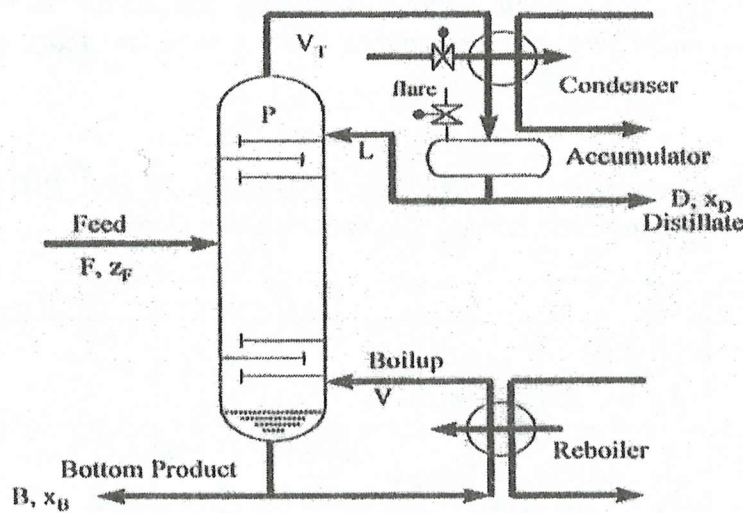

Figure Q. 6 [a] : Distillation process diagram
6. Considered the distillation column shown in Figure Q.6 [a].
[b] A reactor system under consideration is shown in Figure Q.6 [b].